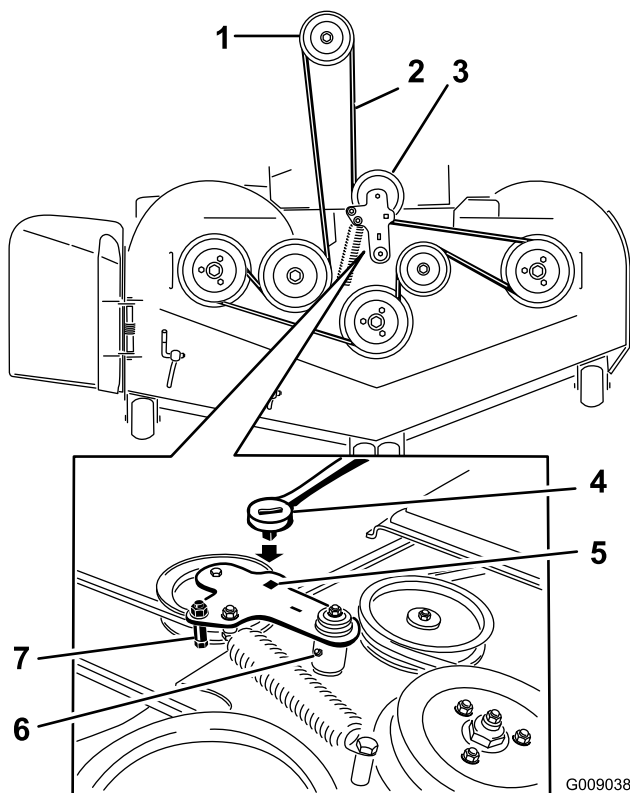

Figure 109
5. Lift the floor pan and insert a ratchet into the square hole in the deck idler (Figure 109).
6. Rotate the deck idler clockwise and remove the mower belt (Figure 109).